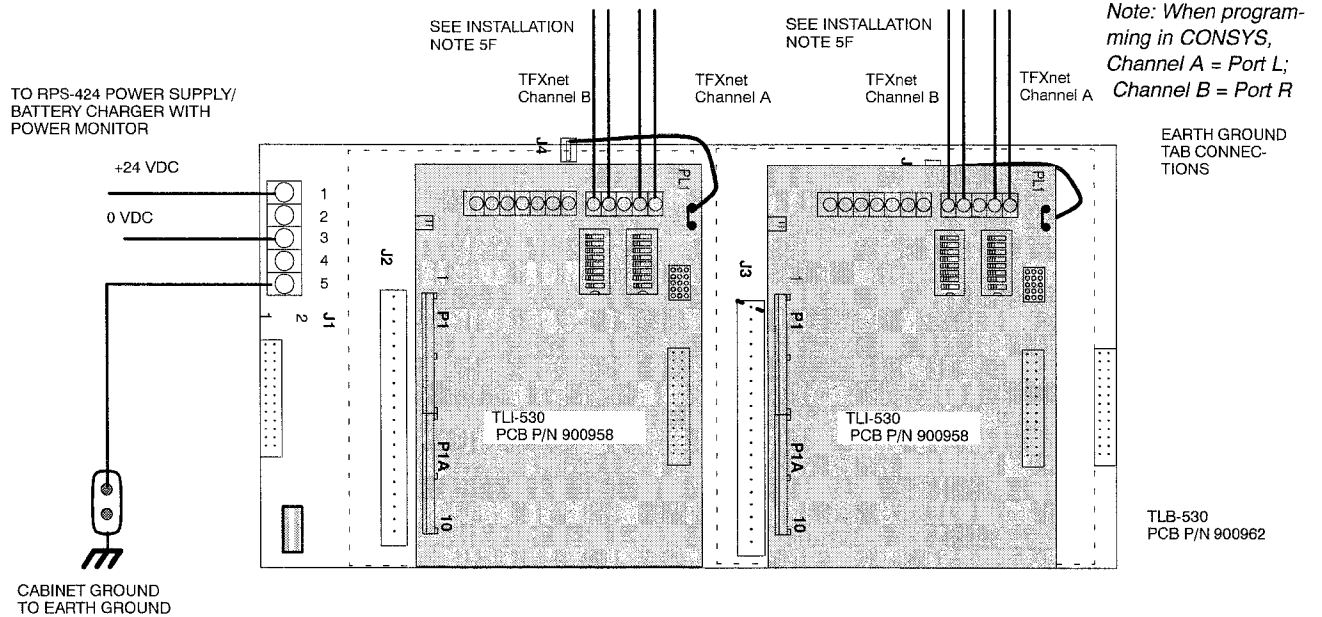

Figure 4. Two TLI-530 Boards, in Bridge Configuration.
- **Bridge**—A bridge allows two TFXnet circuits with independent topologies (such as a ring and a star) to communicate. A bridge is comprised of two TLI-530 modules mounted on a TLB-530 board (see Figure 4). Each TLI-530 module "resides" on its own TFXnet circuit, while communicating with each other via the TLB-53; thereby "bridging" the two networks. (Both networks, and the bridge, must operate at the same baud rate; with a maximum baud rate of 19.2 k-baud.)
5. **Bridge Network Configuration (See Figure 4):**